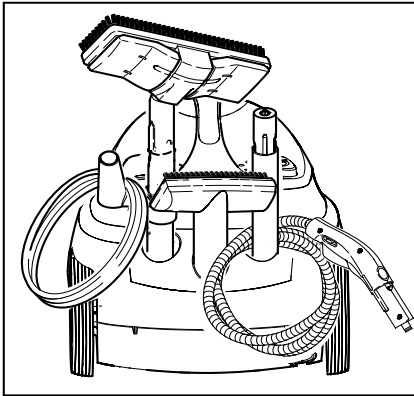

Figure 8
- Insert the manual nozzle (E1) into the medium accessory bracket (see Fig. 8).